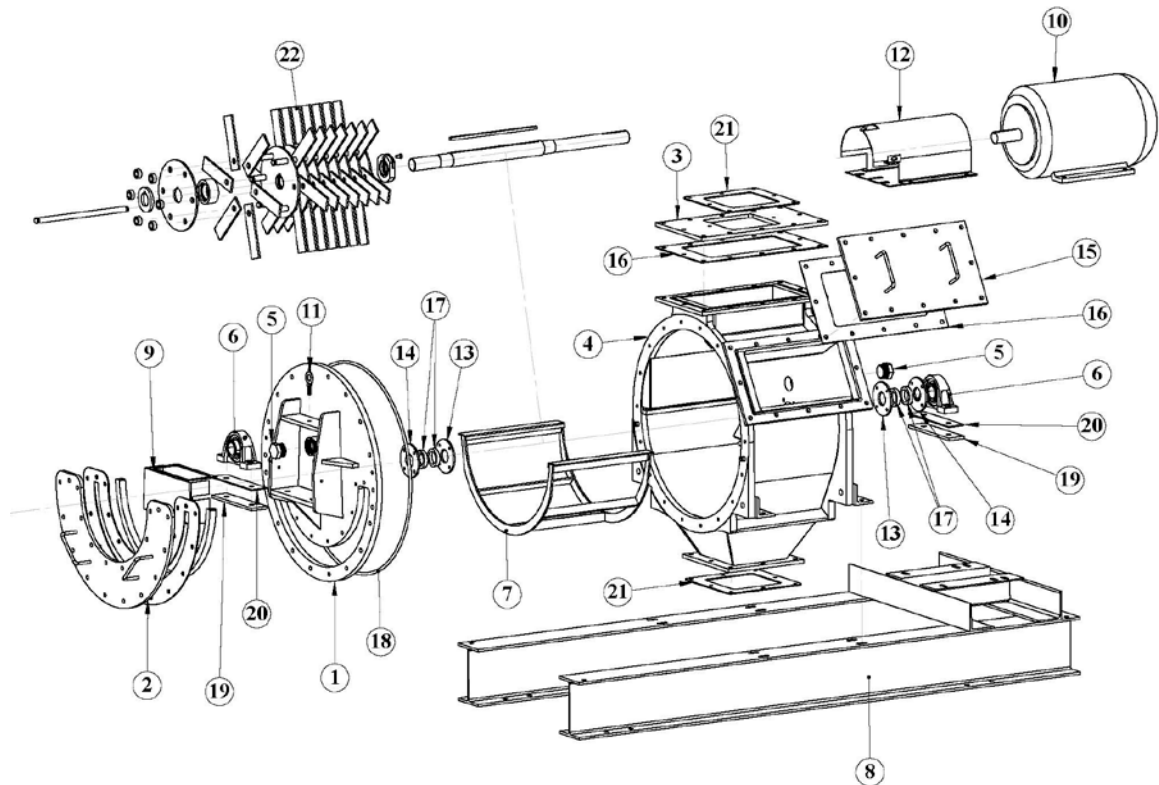

Figure 5-14: Exploded View G PSR 11 Series Mill
7. Refer to Figure 5-14 and remove the bearing locking collar and the bearing mounting hardware and remove the bearing. Be sure to note the placement of any shims under the bearing block.
- D. Refer to Figure 5-14 and remove the Outside Seal Retainer, Figure 5-14, 14.
- E. Refer to Figure 5-14 and remove the bolts securing the Front Cover Assembly, Figure 5-14, 1 and remove the cover.